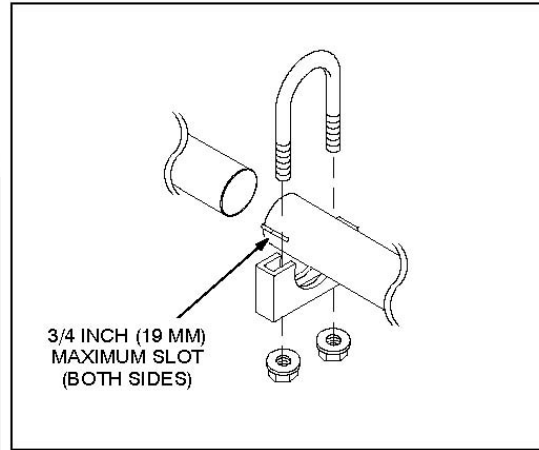

FIGURE 8. EXHAUST TAILPIPE CONNECTIONS
2. Use U-bolt muffler clamps to connect sections of tail pipe. It is recommended that the overlapping pipe be slotted as shown in Figure 8.